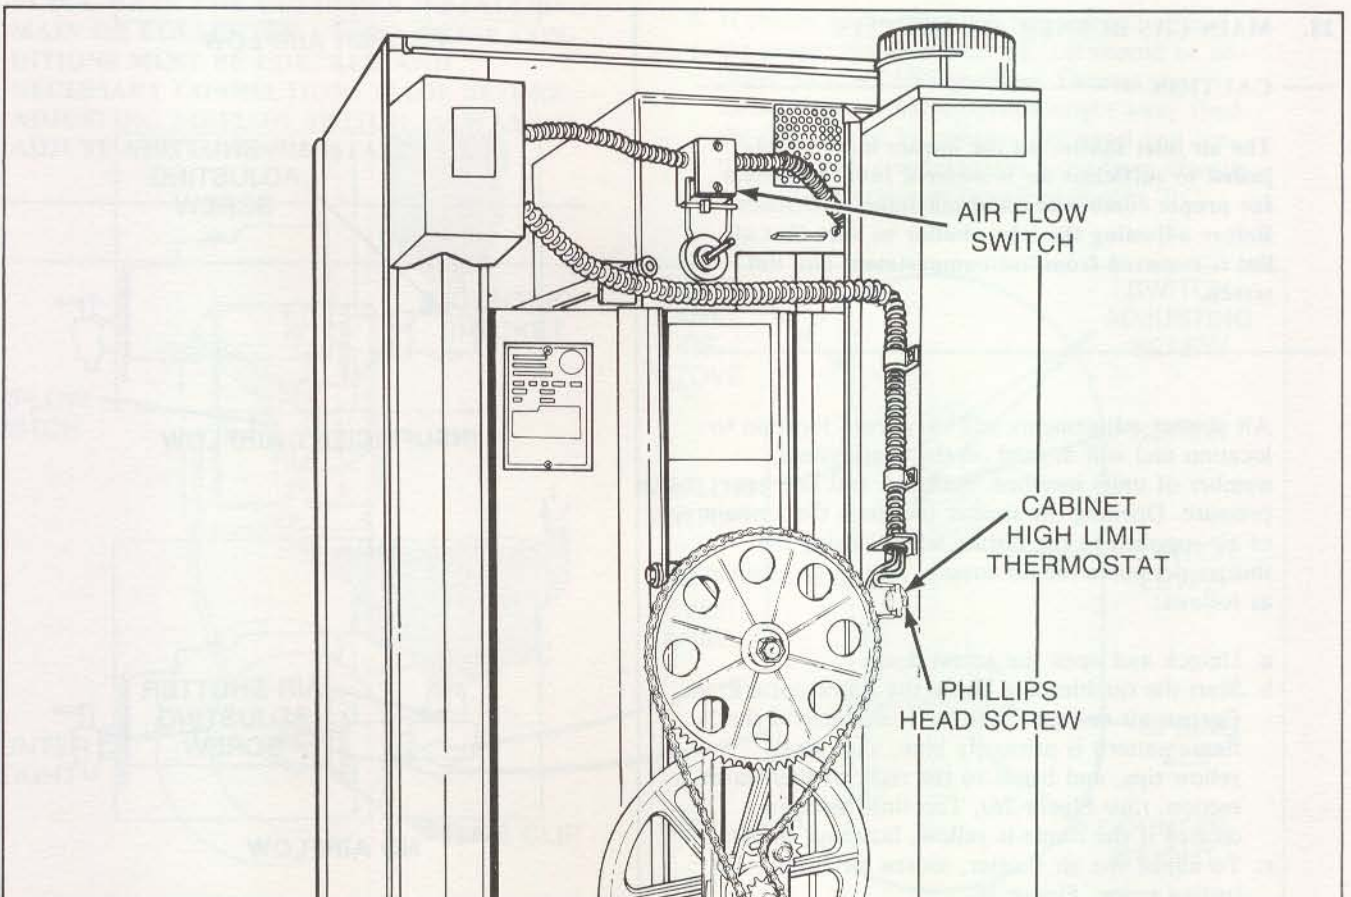

Figure 25
- b. Disconnect wires from thermostat, *Figure 25*.
- c. Remove two Phillips head screws holding thermostat to cabinet, *Figure 25*.